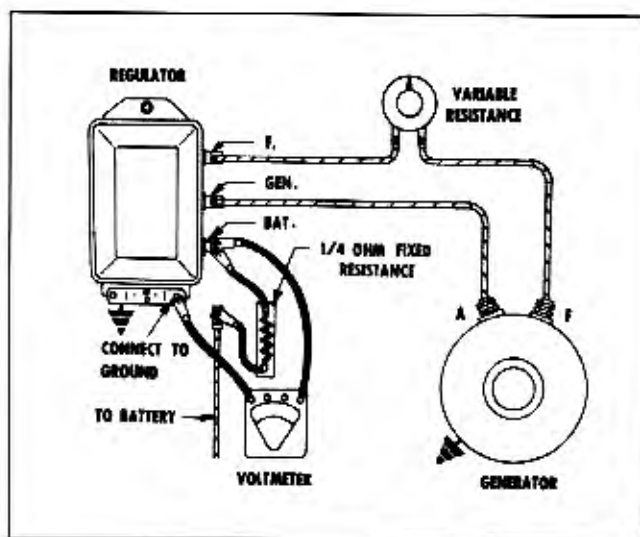

Fig. 12-15 Connections for Checking Double Contact Voltage Regulator
2. Connect a voltmeter from regulator "BAT" terminal to ground (Fig. 12-15).